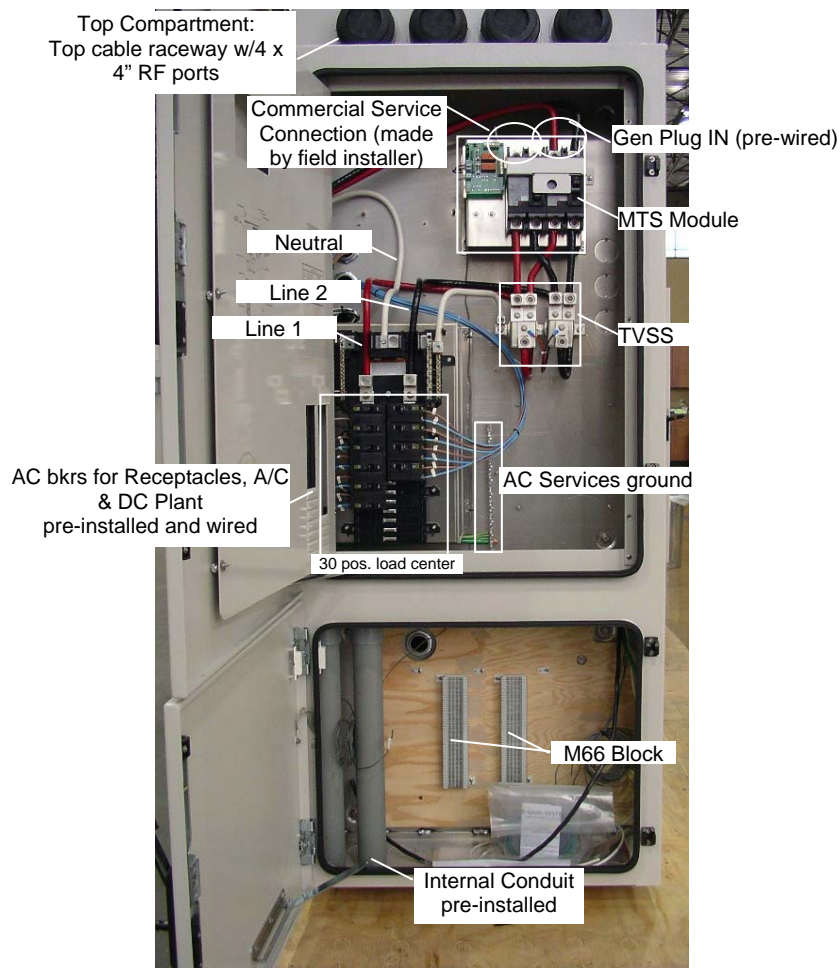

Figure 4 – Left side view showing AC Service equipment (PPC w/MTS Shown)
For RAC683031SDG2 cabinets using the PPC for AC power distribution, it is assumed that the site meter is mounted at a remote location and the incoming service is brought to the cabinet in either appropriately sized conduit (see Figure 4) or an overhead drop.
- 2.5 The Ground conductor (green) should be installed in an available position on the Ground Buss located next to the Load-Center (see Figure 4). Per Code, the AC Service Ground should be bonded accordingly to a driven rod, etc. by the field contractor.